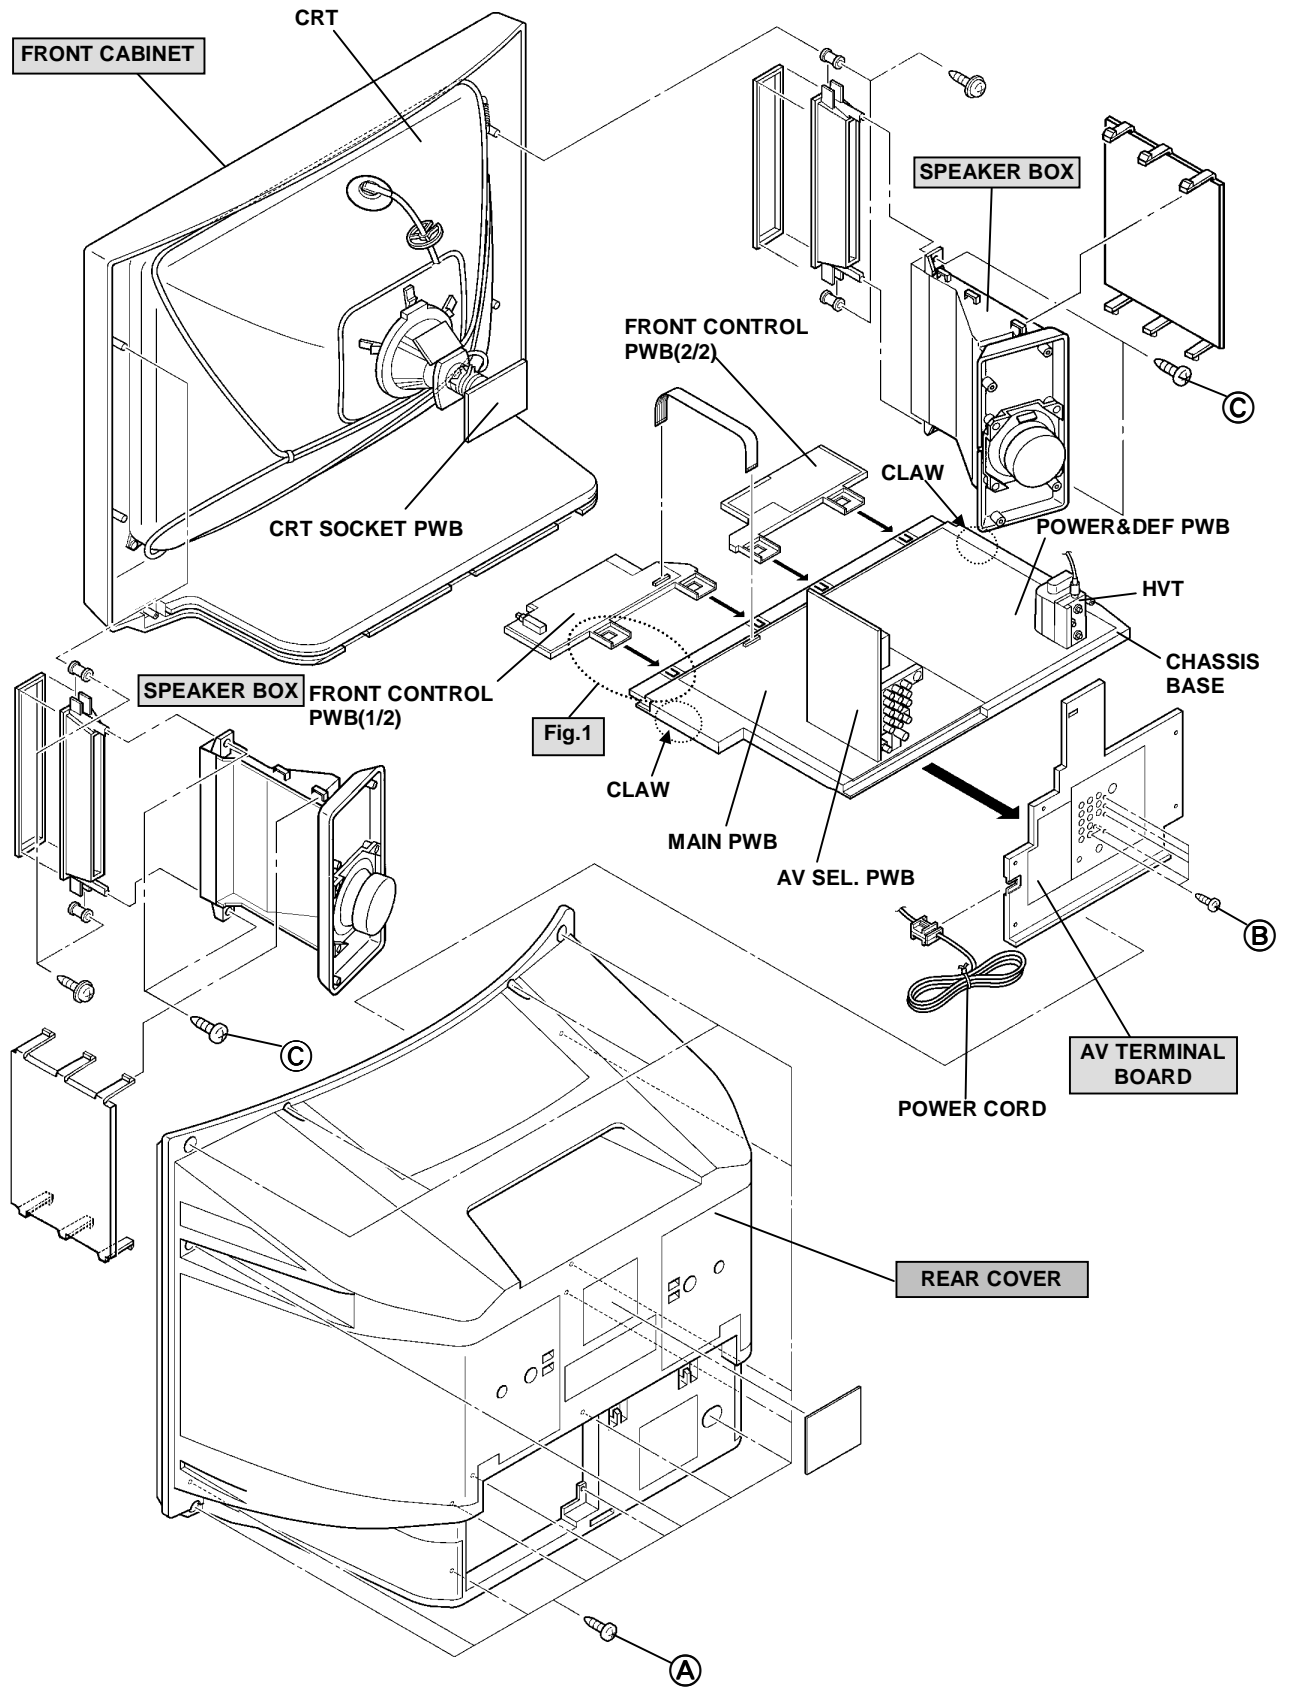

Fig.2
1. As shown in Fig. 2, removing the **2** screws marked **(C)** , then remove the speaker box.